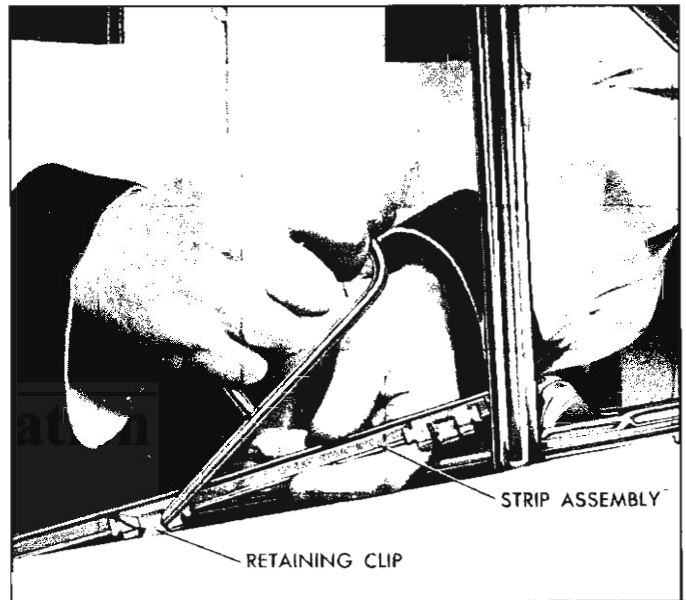

Fig. 8—Glass Channel Strip Removal
3. With a hooked tool, carefully pry up inner edge of strip assembly at clip locations and remove assembly from door (see Figure 8).